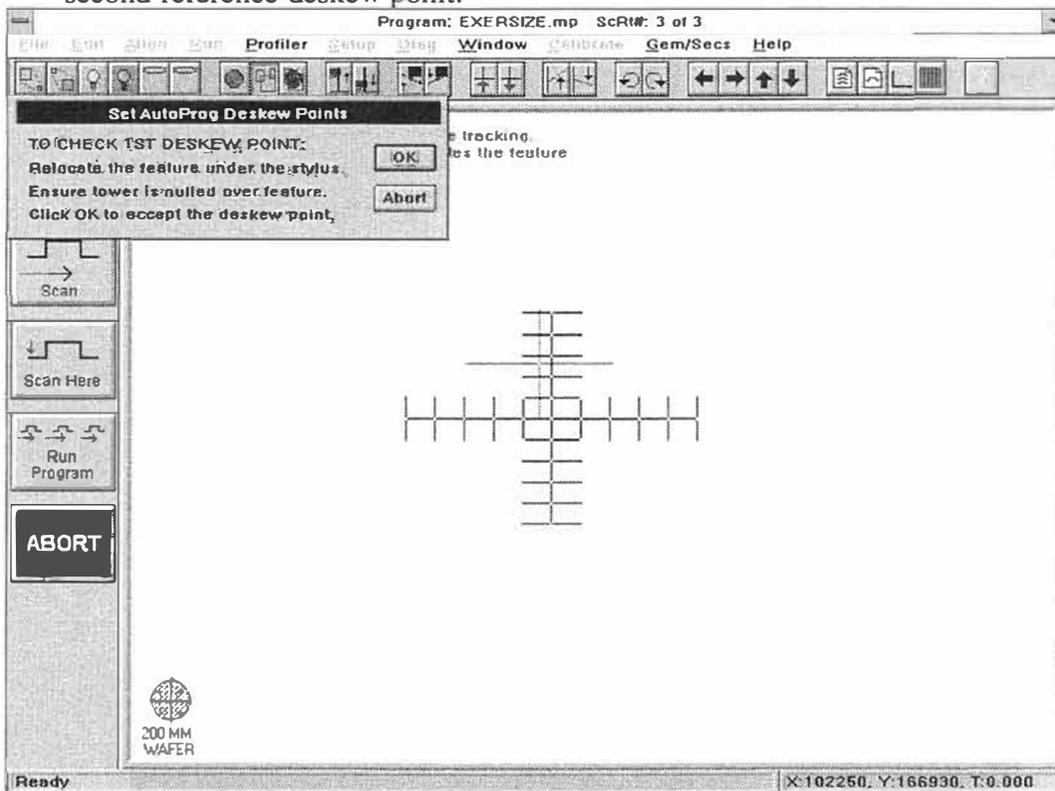

Figure 5-18. Checking the 1st Actual Deskew Point
1. Click-on "RUN" and click-on "Run Auto Program" from the Run menu. The stage will translate to the X,Y,theta location of the reference deskew points. A dialog box will be displayed providing instructions for checking the first actual deskew point (see Figure 5-18).
3. Click-on the software reticule to activate the stage. Roll the pointing device to relocate the visually identifiable landmark selected as the 1st reference deskew point. Line up the software reticule with the upper right corner of the calibration standard pattern as shown in Figure 5-18.